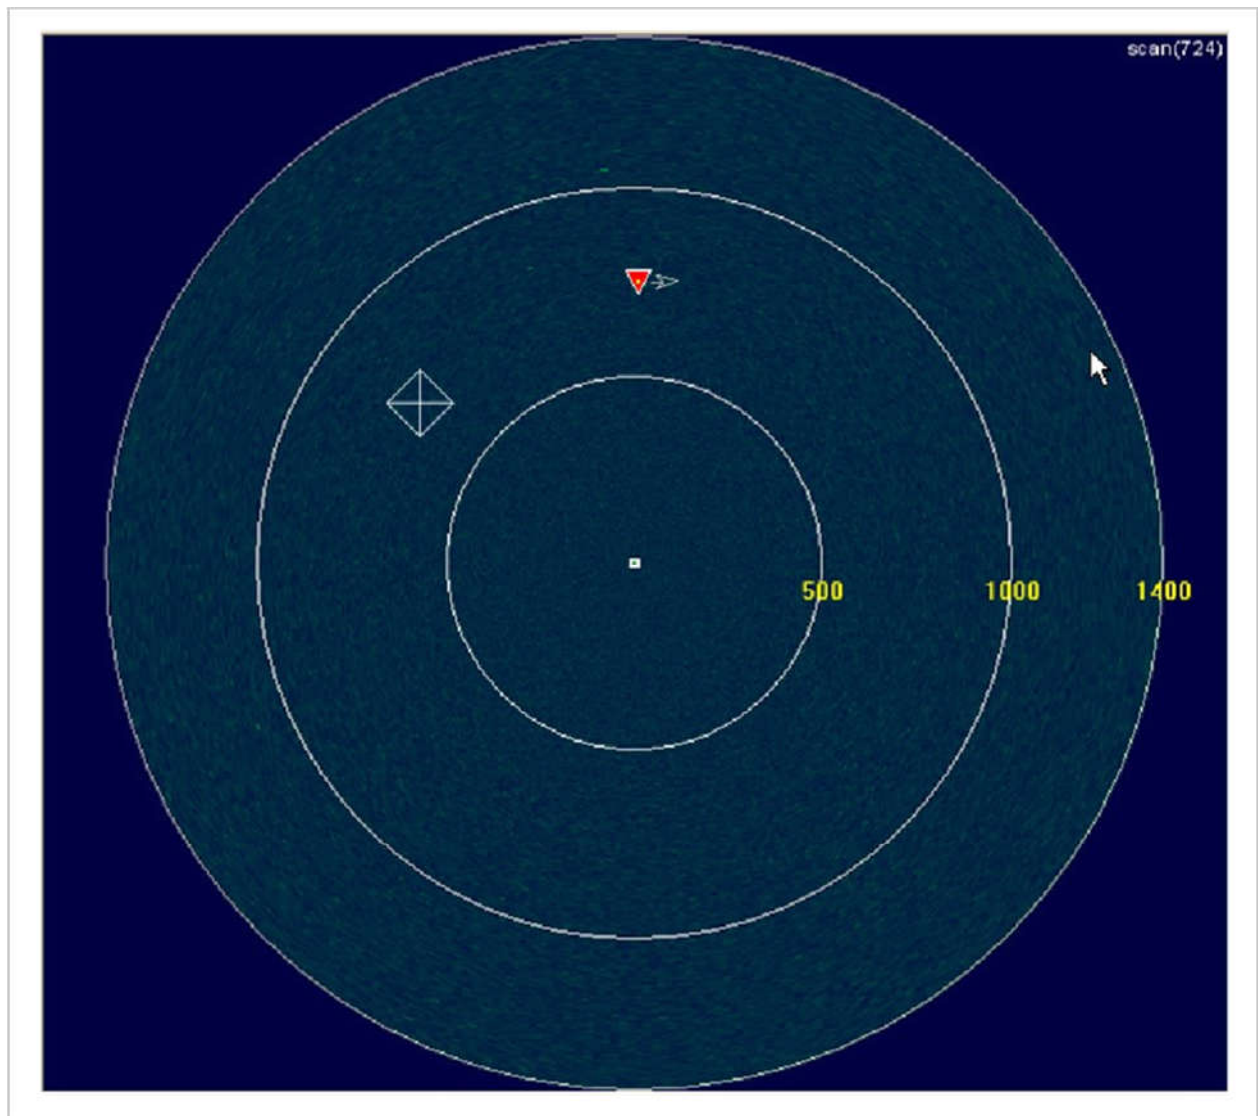
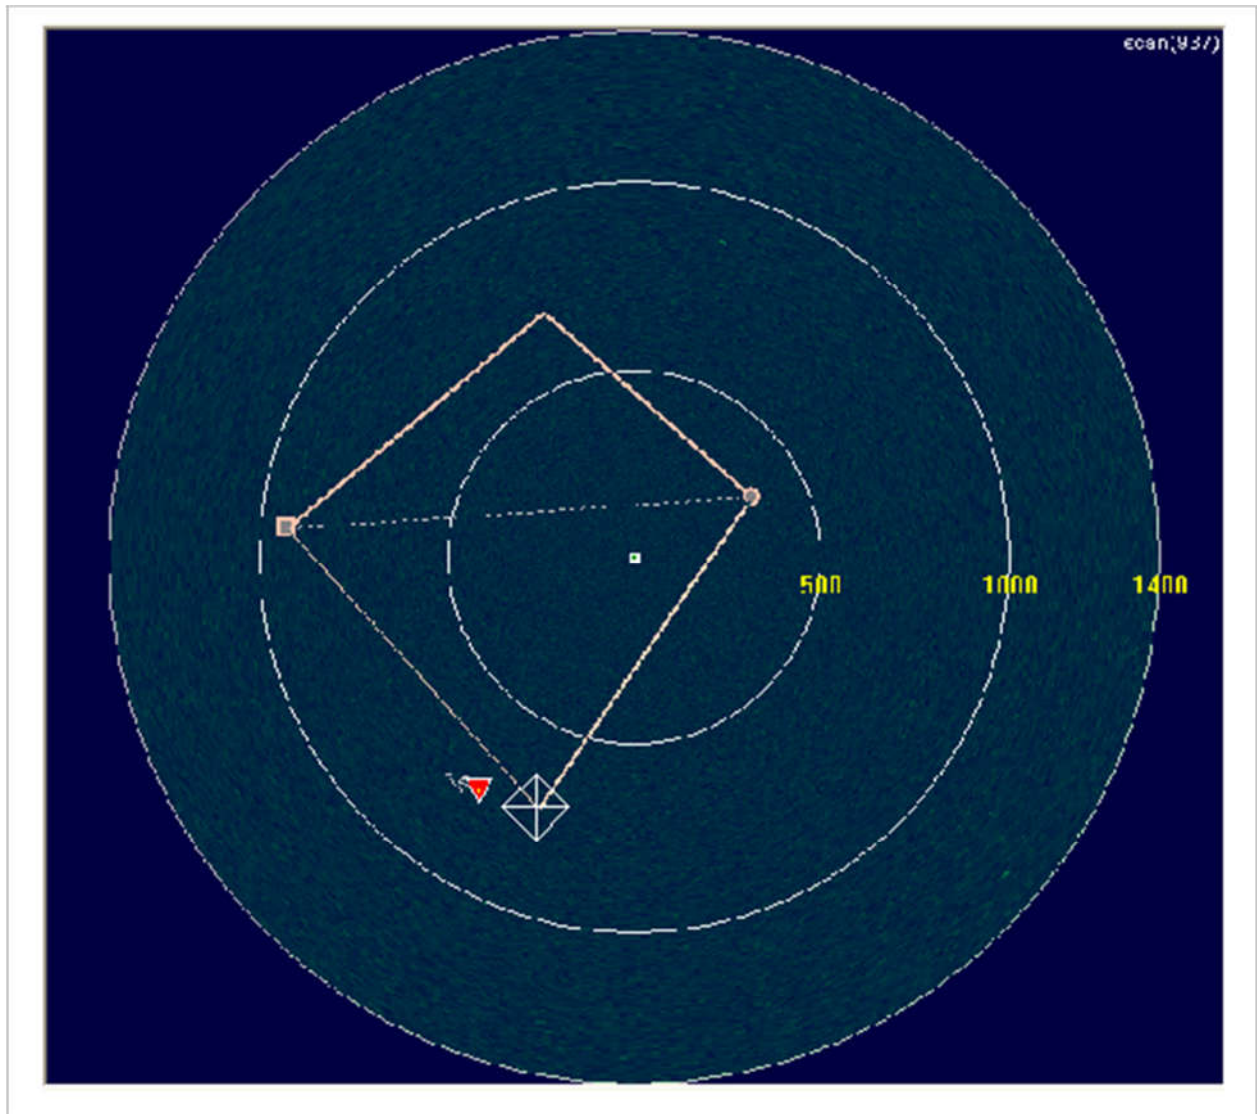

Figure 17 - Creating a Zone (Step 1 of 4)
Figure 20 - Creating a Zone (Step 4 of 4)
A **zone** consists of a polygon made with three (3) or more sides. Each segment is added by left-clicking with the mouse at the desired location. Figure 17 through Figure 20 shows a typical zone during the edition process. The dashed line shows how the zone will be defined if the user completes the command.